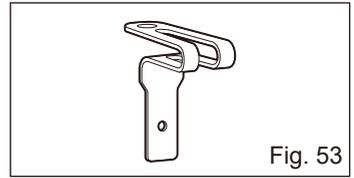

Fig. 53
1) Hook for RF20SII and RT20SII. (Fig. 53)